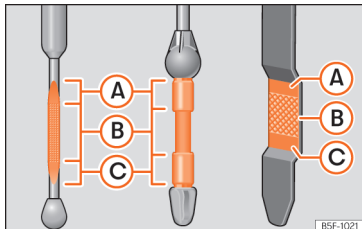

Fig. 181 Marked engine oil dipstick
- If the engine oil level is above the area »» Fig. 181 do not start the engine. Request help from specialised staff. Otherwise catalytic converter and engine damage may occur.
When the engine is working hard, for instance during sustained high-speed motorway cruising in summer or when climbing mountain passes, the oil level should preferably be kept within area **»» Fig. 181 (A)**.